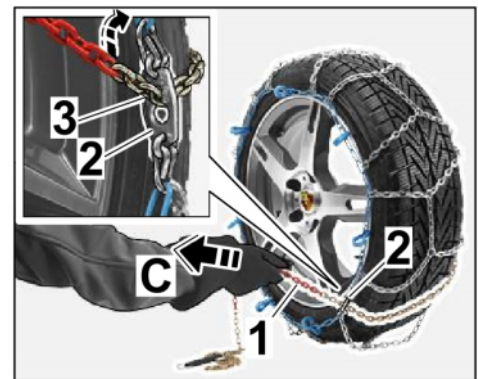

Figure 9
2.2.4 Pull the tensioning chain tightly through the locking plate (⇒ *Figure 9-C-*).
Engage chain link of the tensioning chain in the slot on the locking plate (⇒ *Figure 9-D-*).